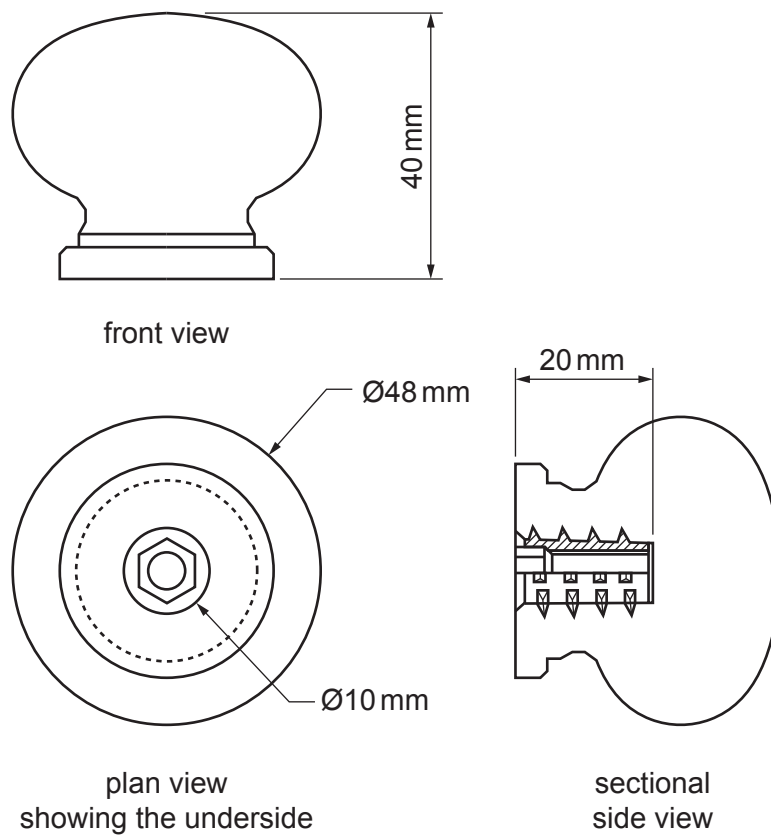

Fig. 3.3
- Fig. 3.3 shows the front, plan and sectional side views of the door handle and threaded metal insert.